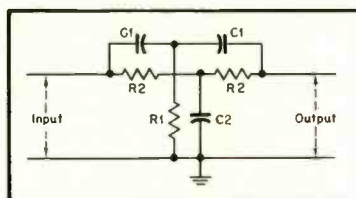
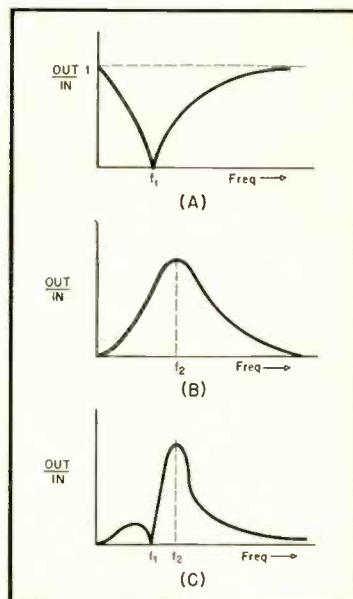
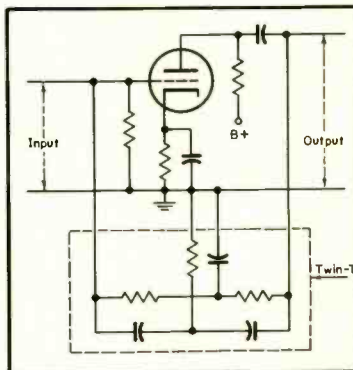

Fig. 1
Fig. 2
Fig. 3
RESISTANCE-CAPACITANCE filters are generally considered inferior to *LC* filters in that their *Q* is low and it is usually impossible to attain sharp cutoffs or steep resonance curves. One of the better circuits for rejection of a single frequency is the twin-T, diagrammed in Fig. 1, often used in measurement work at radio frequencies and equally useful at a.f. It does completely reject one frequency but has fairly mild slopes, as the curve (A) of Fig. 2 shows.
The circuit of Fig. 3 is a negative feedback amplifier using the twin-T, often employed to pass a single frequency, since the twin-T in the feedback loop causes degeneration at all frequencies but that (f_2) at which transmission through the twin-T is nil. The curve of response in this circuit is given at (B) in Fig. 2. Obviously, frequencies adjacent to f_2 are not greatly attenuated. It is difficult to make a more selective circuit at audio frequencies—especially in the lower range—even with *LC* filters, because of core losses and low *Q*.
Charles E. Dolberg's Patent No. 2,495,511 shows an ingenious but quite simple method of combining the circuits of Fig. 1 and Fig. 3 to obtain a very sharply selective audio filter, so much so that in bridge measurements at 55 cps, for instance, it is possible effectively to exclude 60 cps from
Dolberg's basic circuit appears in Fig. 4. The input signal first passes through V_1 . Between the V_1 plate and the grid of V_2 is a twin-T adjusted to reject completely a frequency f_1 just below the frequency f_2 which the designer wishes to pass through the entire system. V_2 is a feedback amplifier similar to that of Fig. 3, adjusted for maximum transmission at f_2 .
The result appears at (C) in Fig. 2 as the resultant of the curves (A) and (B). The twin-T between V_1 and V_2 gives the rejection (A) so that the lower side of the resultant curve is very steep, going to infinite attenuation at f_1 .